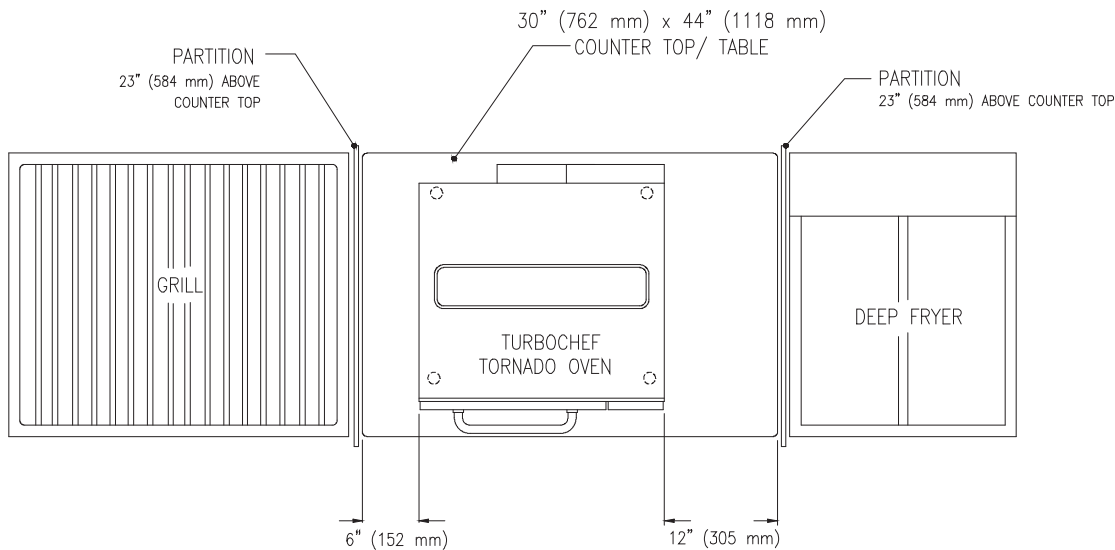

FIGURE 3: Open Heat Source Installation Specs
**Installation Near Open Heat Source (Figure 3)**